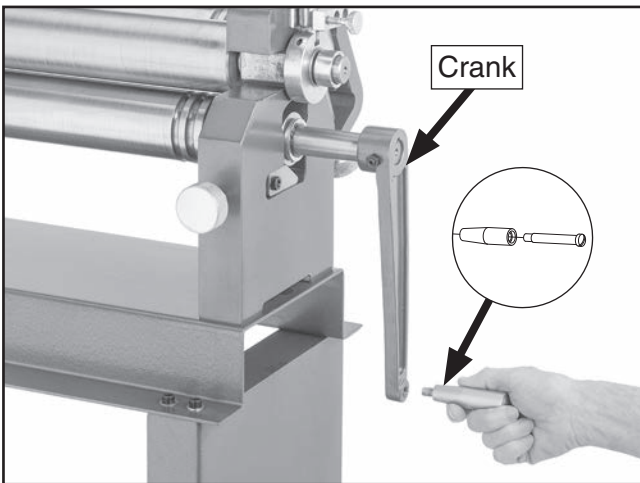

Figure 9. Attaching hollow handle to crank with shoulder screw.
- Attach hollow handle to crank with M10-1.5 x 14 shoulder screw (see **Figure 9**).